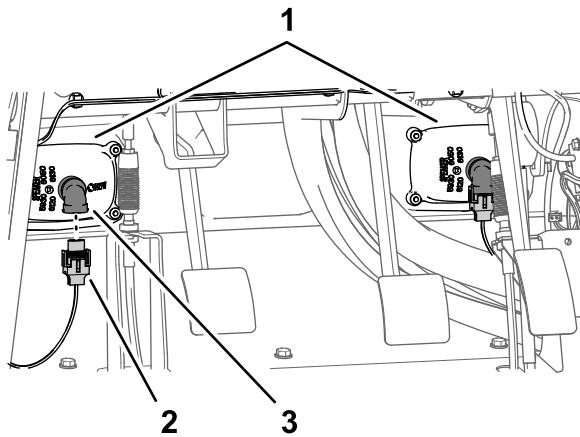

**Figure 216**
- Align the hood holes in the hood with the holes in the dash panel and frame of the machine (Figure 216).
- Secure the hood to the dash and frame with 9 push-in fastener (Figure 216).